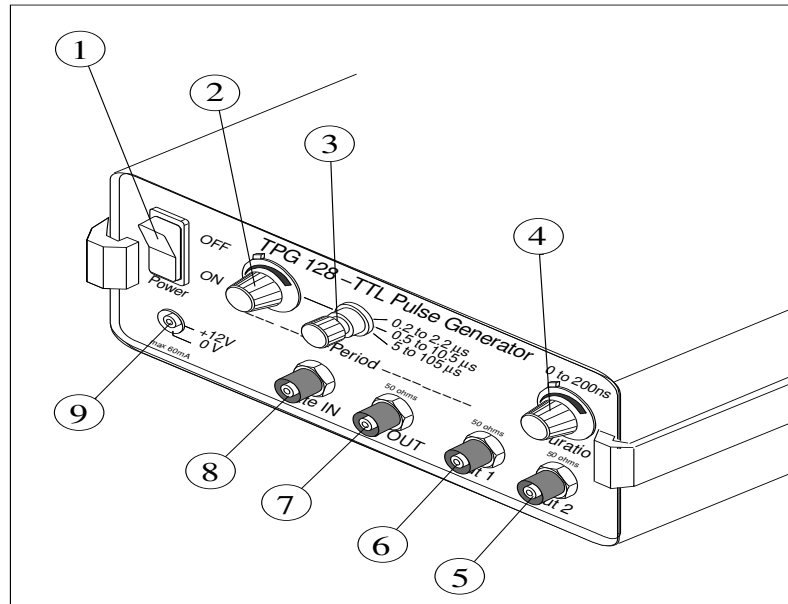

Figure 5.4.: TPG front panel.
The front and rear panels of the TPG are shown in figure 1.12; a detailed view of the front panel is shown below in figure 5.4.
The pulse duration can be set from 0 to 200ns and the interval between pulses from 200ns to 105 μ s in 3 ranges; using the (2), (3) and (4) knobs shown in figure 5.4.
The TPG can be operated in internal or external mode; the mode is selected with a switch on the rear panel of the TPG, as shown in figure 1.12. The input and output signals are provided or generated through the four BNC connectors shown in figure 5.4: